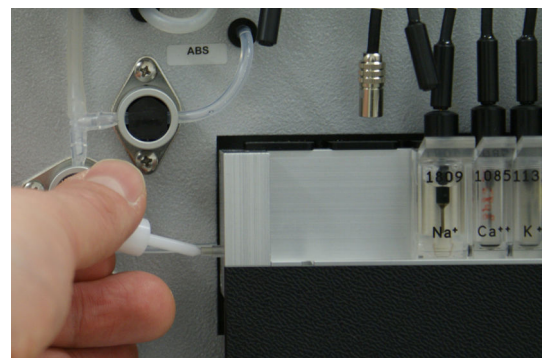

figure 2
- Put the exchange tool on the LB-capillary as shown in figure 2.